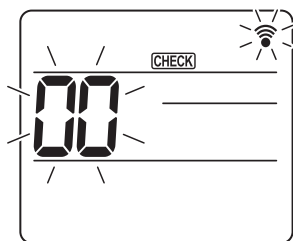
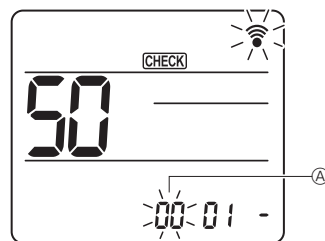
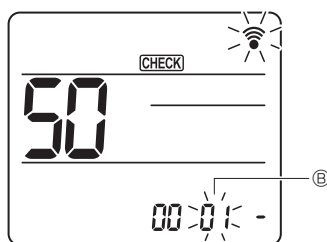
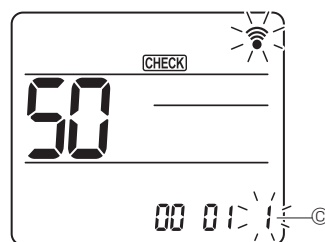

Fig. 7-16
Fig. 7-17
Fig. 7-18
Fig. 7-19
7.4.2. By wireless remote controller (Fig. 7-16, Fig. 7-17, Fig. 7-18, Fig. 7-19)
(Start this operation from the status of remote controller display turned off.) [CHECK] is lighted and "00" blinks. (Fig. 7-16)
- Press the [DOWN] button to set unit number ①. (Fig. 7-17)
- Press the [DOWN] button to set Mode number ②. (Fig. 7-18)
- Use the [DOWN] button to change the Setting number ③. (Fig. 7-19)
- Repeat select ③ and ④ to change multiple function settings continuously.